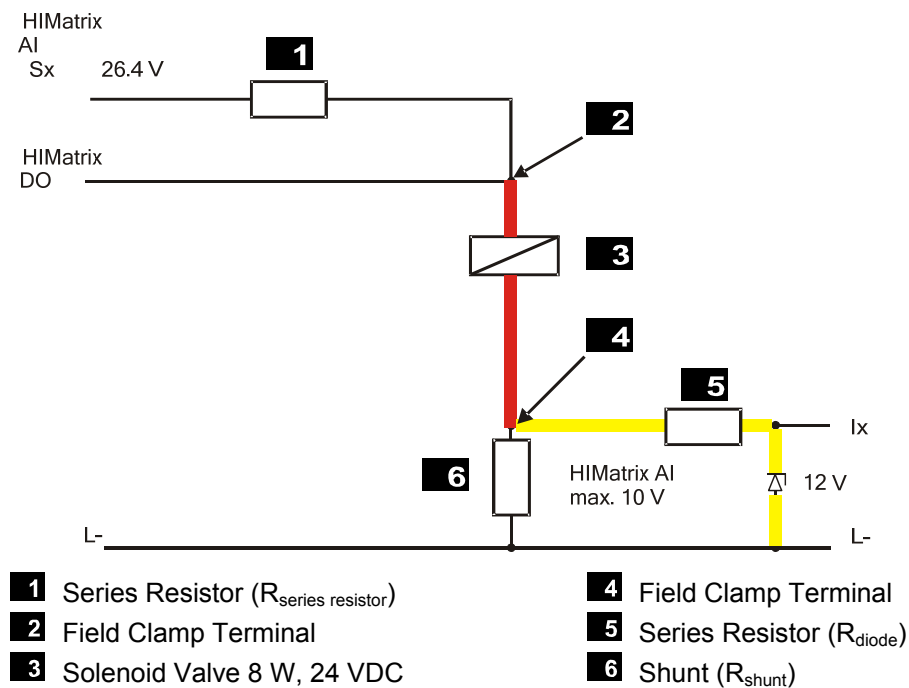

Figure 1: Circuitry for Line Monitoring
Figure 1 shows how the lines connecting a digital output (DO) to an actuator (e.g., solenoid valve) can be monitored for open-circuits and short-circuits.
Illustration of Figure 1 and Table 7
An open-circuit within the red-colored area (see Figure 1) can be monitored through the voltage drop on the shunt R_{shunt} , i.e., the input value of AI, see Table 7.